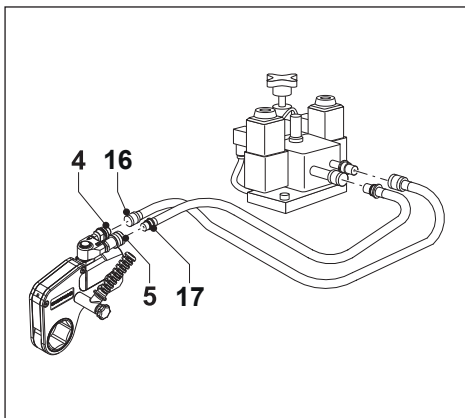

Fig. 8
3.5 To Connect the Hoses (Fig. 8)